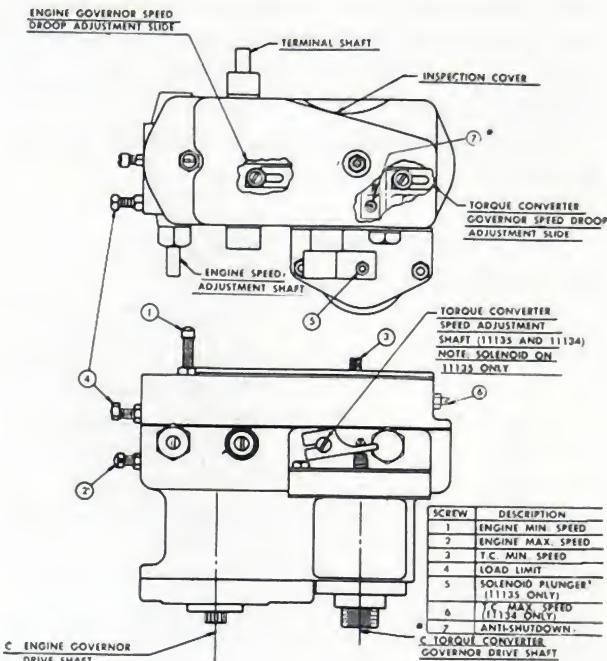

Fig. 12-40. 10941, 11134 and 11135 governor adjusting screws
SETTING SINGLE CASE DUAL GOVERNORS NOS. 10941, 11134 AND 11135; Refer to Fig. 12-40.
- (b) Rotate the terminal shaft in clockwise direction as shown in the lower view of Fig. 12-40 until the servo piston bottoms.